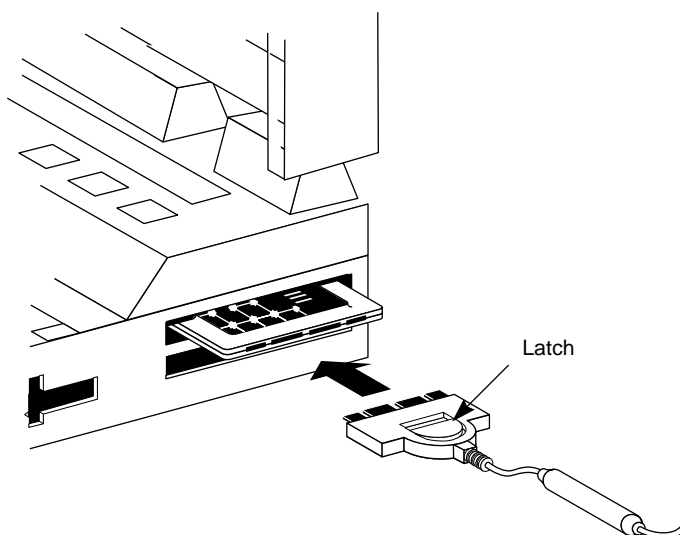

Figure 2-3 Connecting the Cable to the 3C689 Adapter
- 1** Connect the PC Card connector to the adapter, as shown in Figure 2-3.